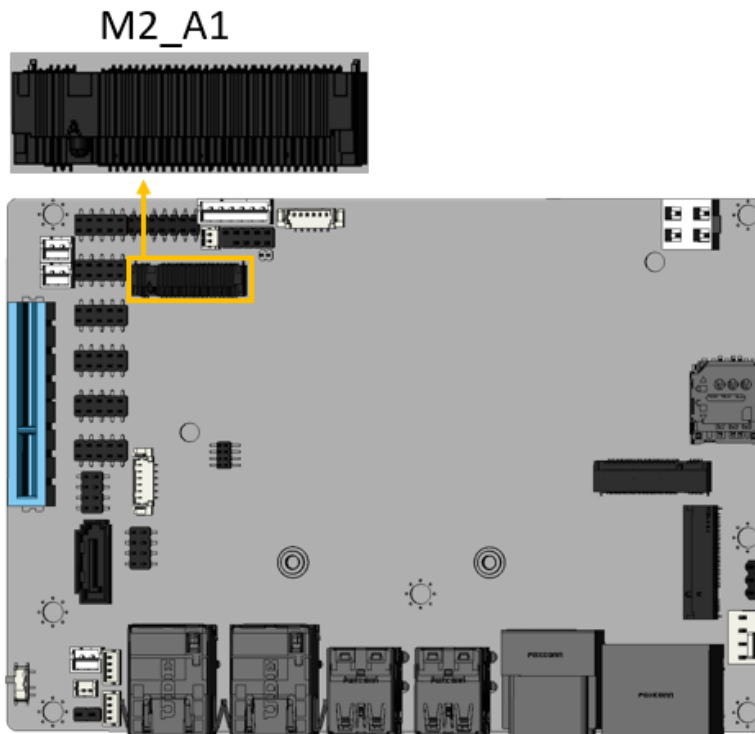

Figure 3-27: M.2 2230 A-key Slot Location
- CN Location:** See **Figure 3-27**